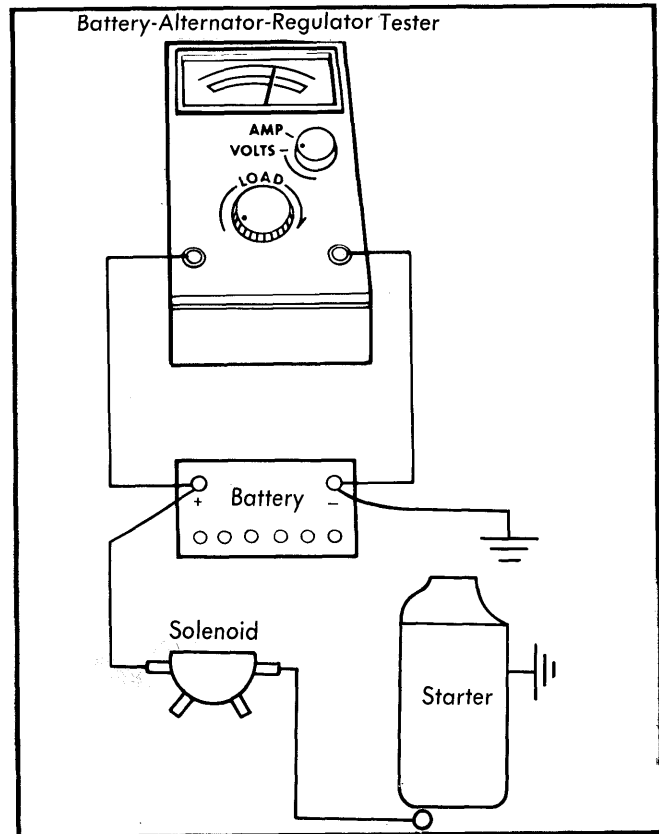

Fig. 1 Starter Full Load Test Connections
**Starter Motor Full Load Current Test** — 1) Connect starter motor tester. Crank engine and observe voltmeter. Turn ignition switch "OFF". Turn load control until voltmeter reading shows the same voltage as when cranking. Observe ammeter reading. See Fig. 1.